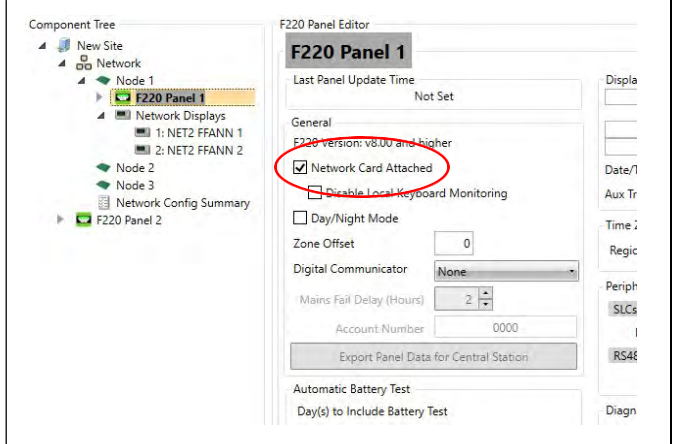

Figure 20-36: Connecting Panel 1 to the Network
- Click on the checkbox “Network Card”, (Figure 20-36) this is the only network setting required in the F220. The F220 panel still requires configuration for normal panel operation.